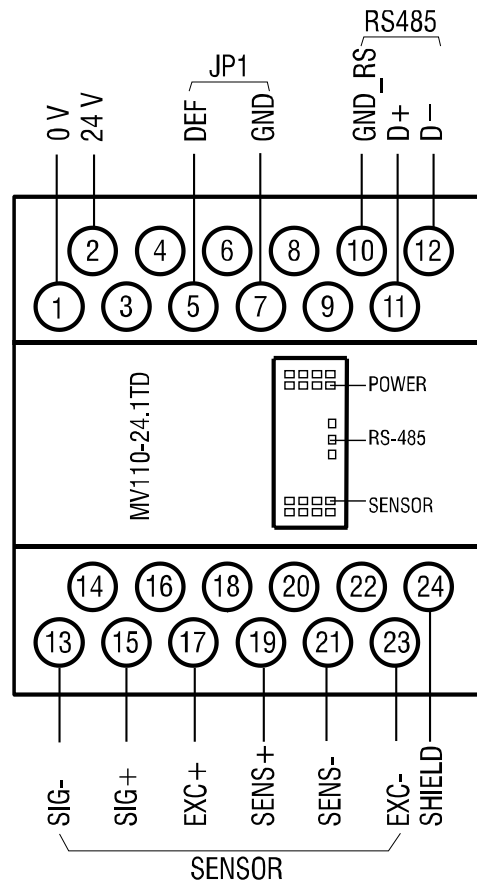

Fig. 4.1
- The electrical connections are shown in Fig. 4.1 and the terminal assignments in Table 5.1.